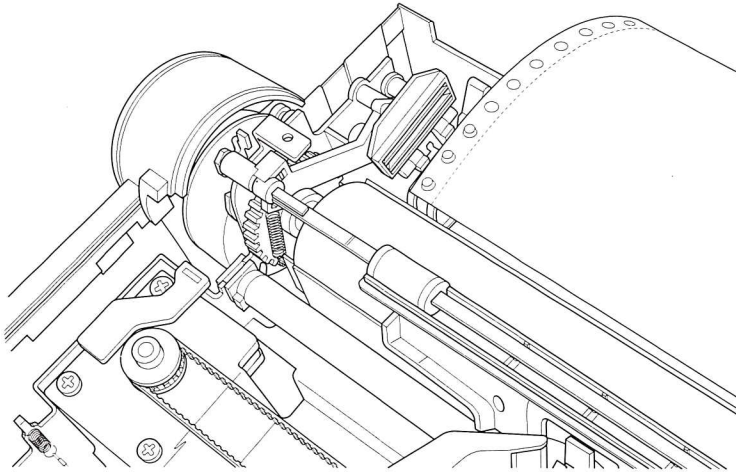

Figure 2-13 Loading pin-feed paper
5. Lay down the lead sheet of paper so that the first three pins on the left-margin tractor poke through the first three pin holes on the left side of the paper. (See Figure 2-13.)